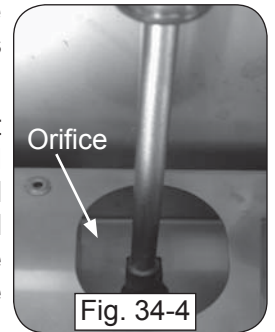

Fig. 34-4
5. Use a $\frac{3}{8}$ " hex nut driver to remove the exposed orifice (Fig. 34-4) and replace it with the correct orifice for the new gas. (See Table 1 at the beginning of this document for orifice sizes.)